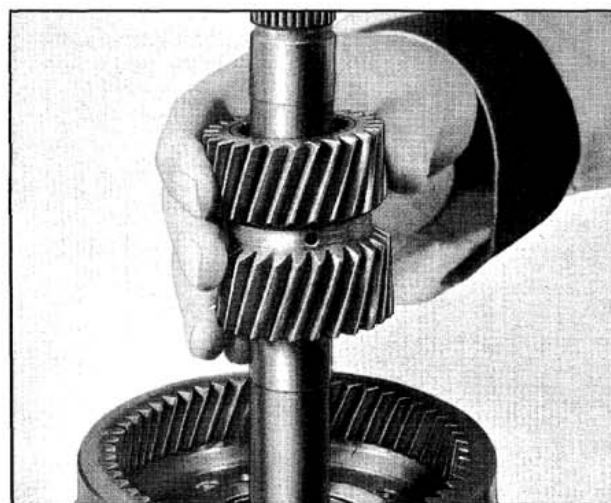

Fig. 6-84 Removing Sun Gear
6. Remove sun gear. (Fig. 6-84)